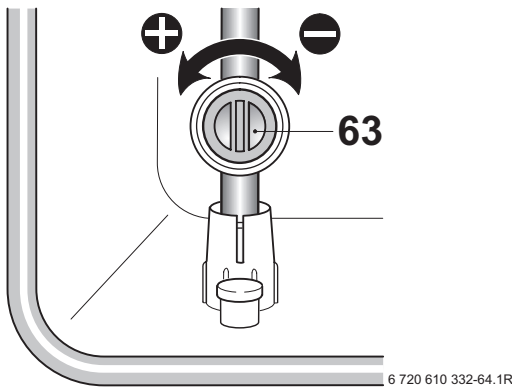

Fig. 44
- ▶ Adjust the gas flow restrictor (63) to obtain the CO₂ level given in Table 15. Refer to fig. 44.